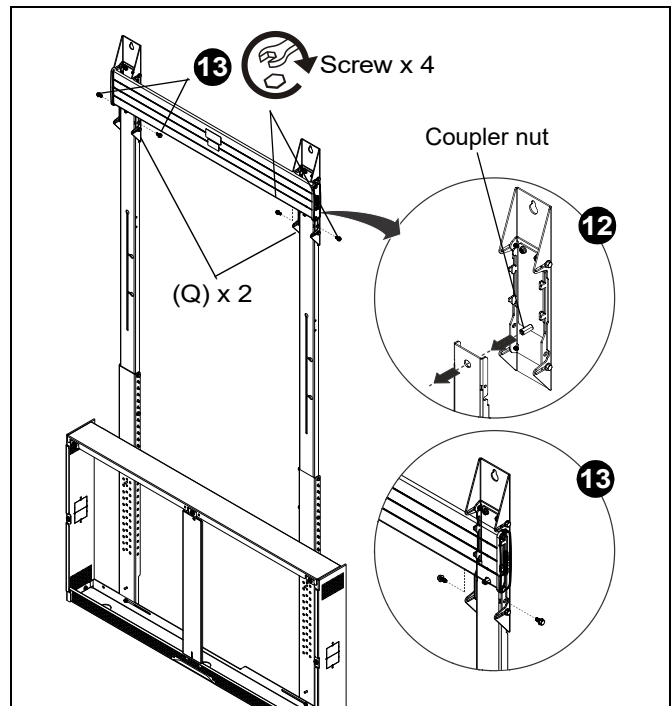

Figure 6
12. Place a mounting bracket (Q) behind each top upright (E). (See Figure 6)
13. Reinstall the four 1/4-20 x 1/2" hex screws to secure the brackets (Q) to the top uprights (E). (See Figure 6)